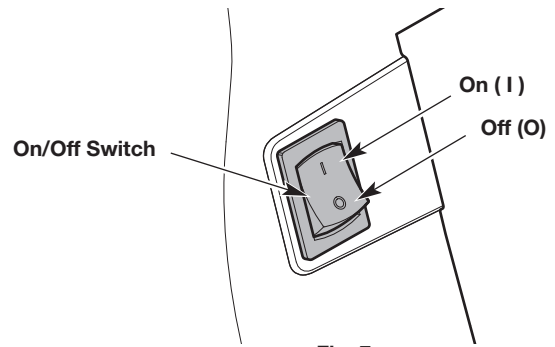

Fig. 7
NOTE: There is no need to turn the unit on. The On/Off switch is in the **On (I)** position at all times (Fig. 7).
2. Press and hold the On/Off switch in the **Off (O)** position until the engine comes to a complete stop (Fig. 7).